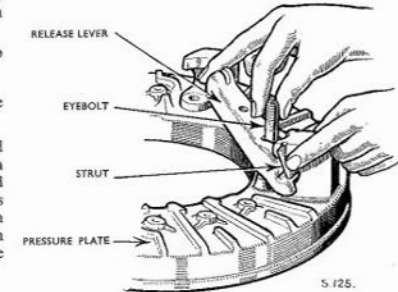

Fig. D.11. Showing the method of removing the release levers
9. To remove the release levers, grasp the lever and the eyebolt between the thumb and fingers as shown in Fig. D.11, so that the inner end of the lever and threaded end of the eyebolt are as near together as possible, keeping the eyebolt pin seated in its socket in the lever. The strut can then be lifted over the ridge on the end of the lever as shown, enabling the eyebolt to be lifted from the pressure plate.